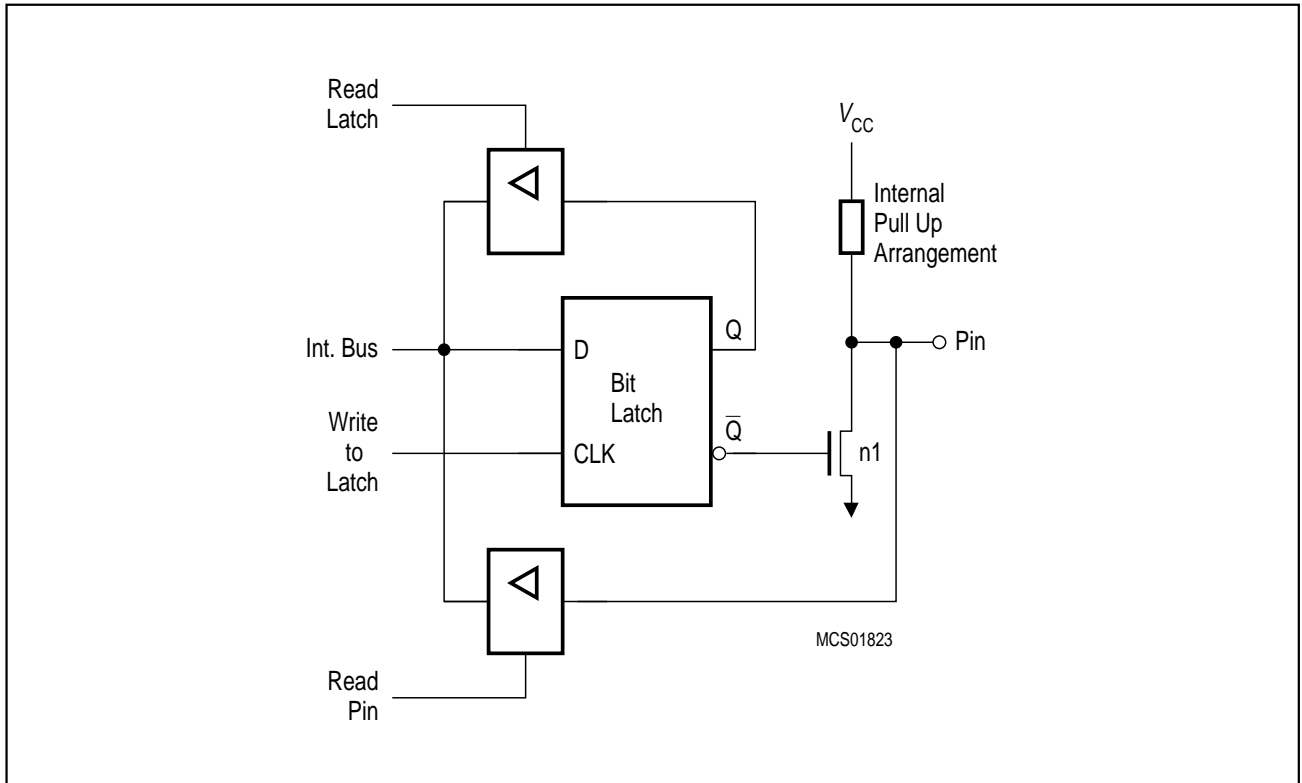
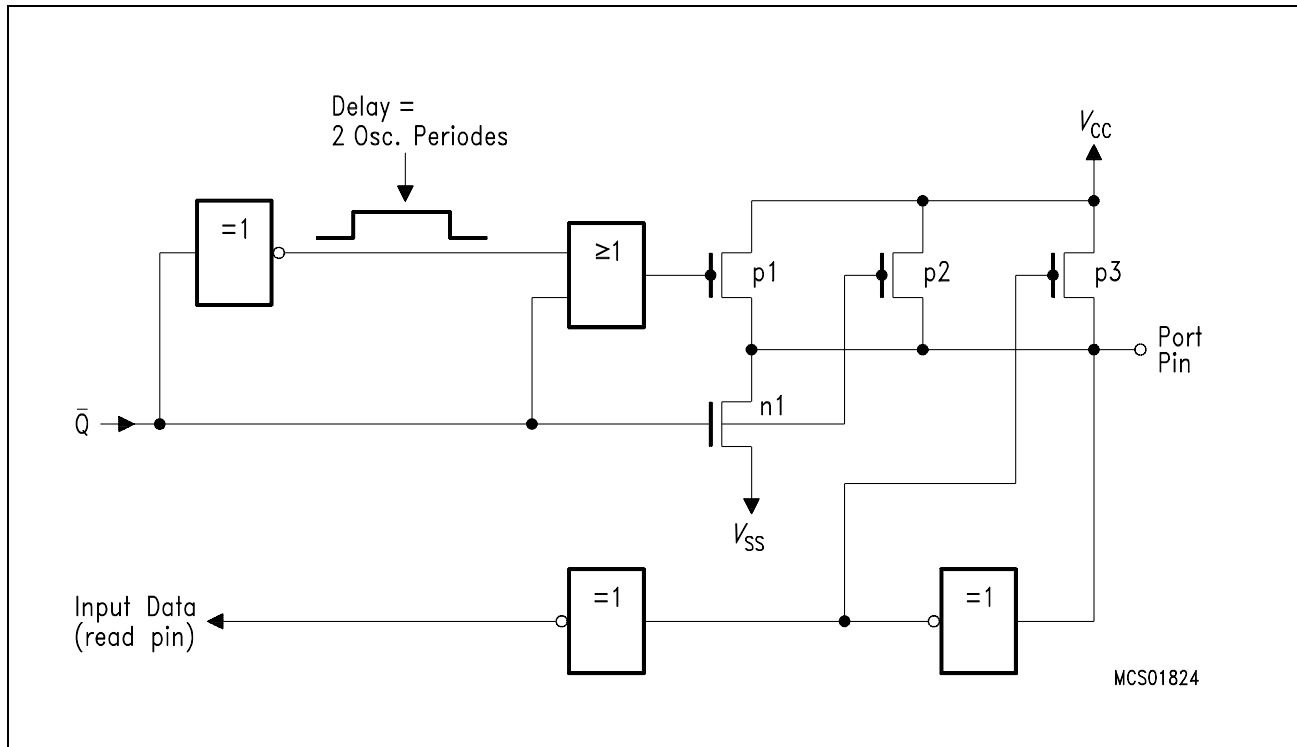

Figure 6-2
Figure 6-3
Port 1, 2 and 3 output drivers have internal pullup FET's (see figure 6-2). Each I/O line can be used independently as an input or output. To be used as an input, the port bit must contain a one (1) (that means for figure 6-2: $\bar{Q}=0$), which turns off the output driver FET n1. Then, for ports 1, 2 and 3, the pin is pulled high by the internal pullups, but can be pulled low by an external source. When externally pulled low the port pins source current (I_{IL} or I_{TL}). For this reason these ports are sometimes called "quasi-bidirectional".
In fact, the pullups mentioned before and included in **figure 6-2** are pullup arrangements shown in **figure 6-3**. One n-channel pulldown FET and three pullup FETs are used: